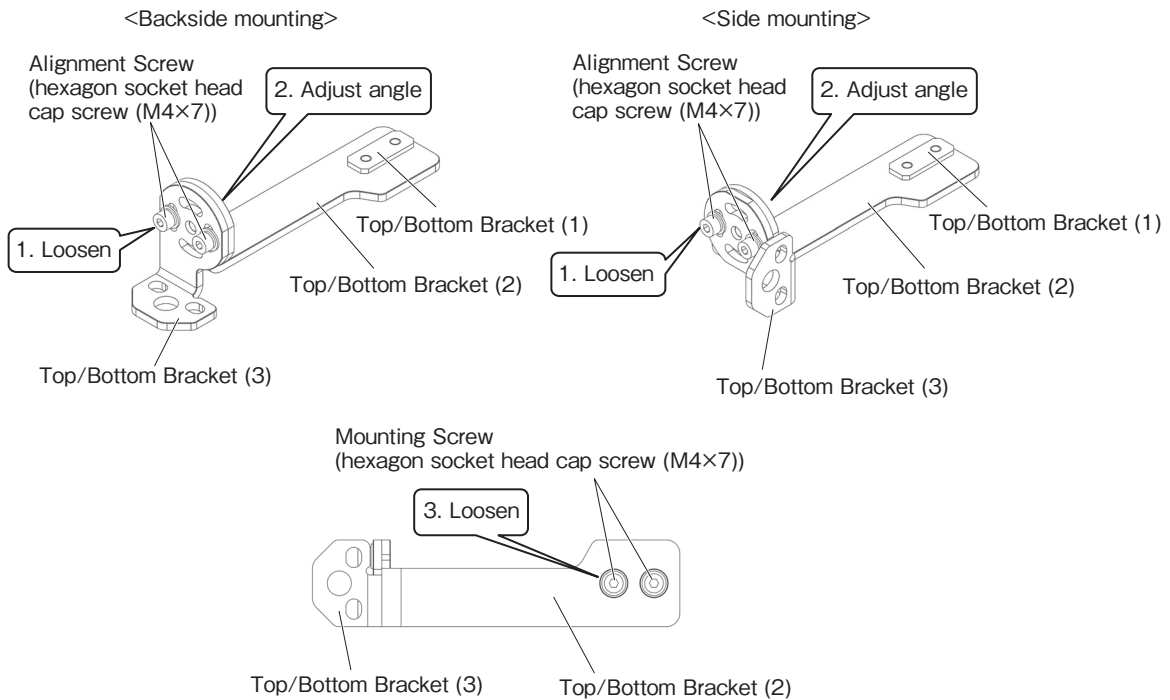

Fig. 1
1. Loosen the Alignment Screws (hexagon socket head cap screw (M4x7)) of the Top/Bottom Bracket (3) and change the angle of the Top/Bottom Bracket (3) according to its mounting direction. Then loosen the Mounting Screws (low head hexagon socket head cap screw (M4x7)) of Top/Bottom Bracket (2). (Fig. 1)